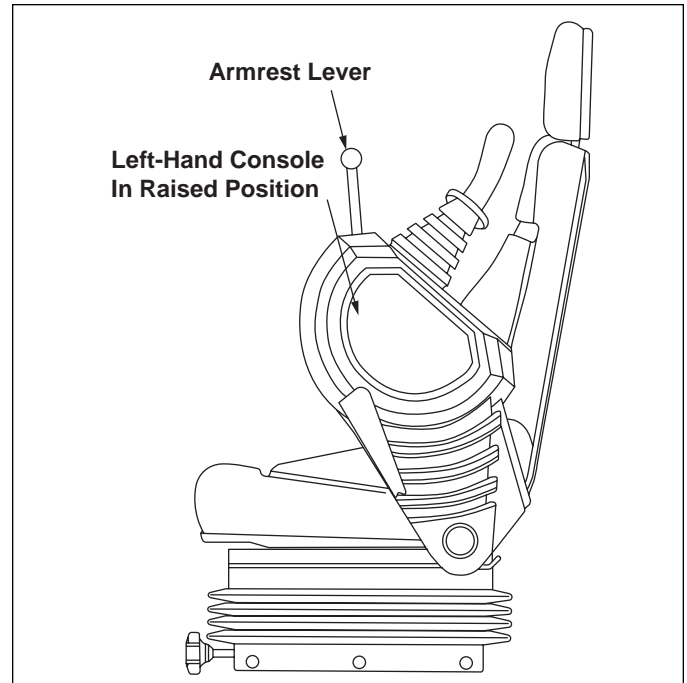

Figure 3-7. Operator's Seat with Left-Hand Console Raised
**NOTE:** The operator's seat left-hand console must be raised in order to exit the cab. In the raised position, the left-hand console locks out all hydraulic functions of the machine (Figure 3-7).